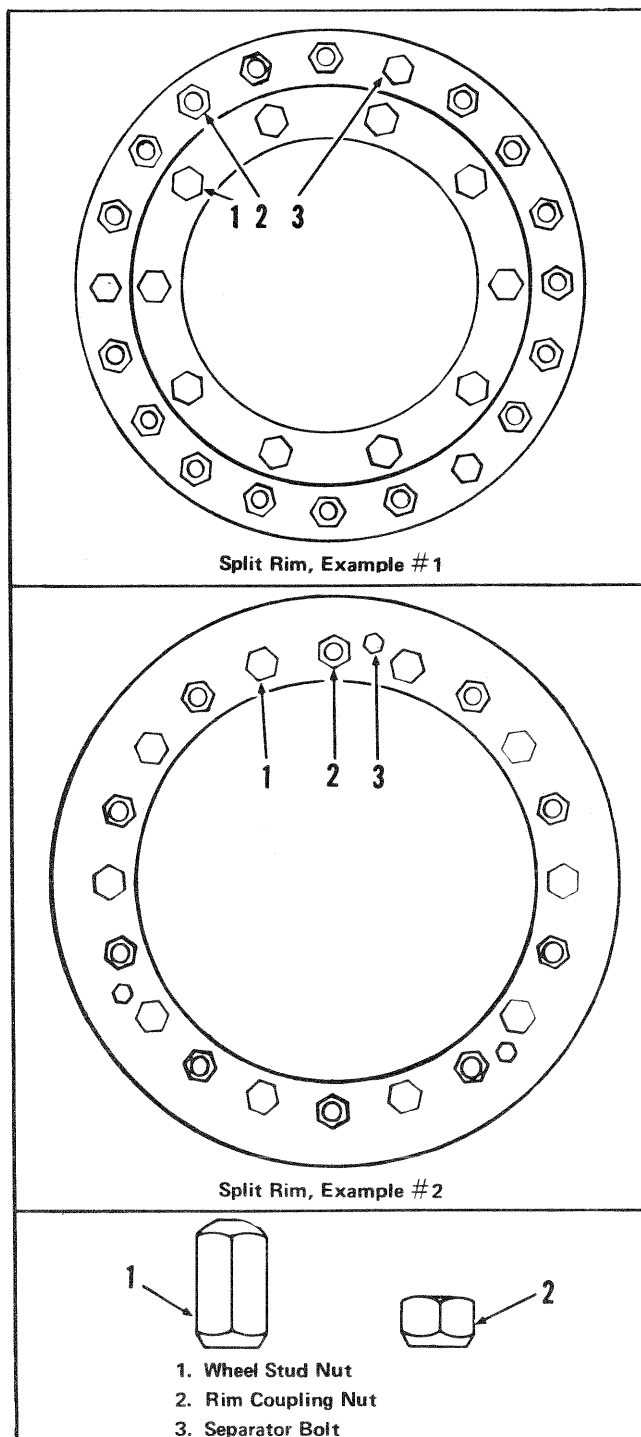

Fig. 17-1 Split Rims
5. Remove the rim stud nuts. Refer to Fig. 17-1 for the correct location of the rim stud nuts.
*NOTE: Example 1, in Fig. 17-1 visually shows the Rim coupling nuts facing the outside of the rim. The current rims of this style have the coupling nuts facing the inside of the rim. Both styles have the wheel stud nuts facing the outside of the rim.*